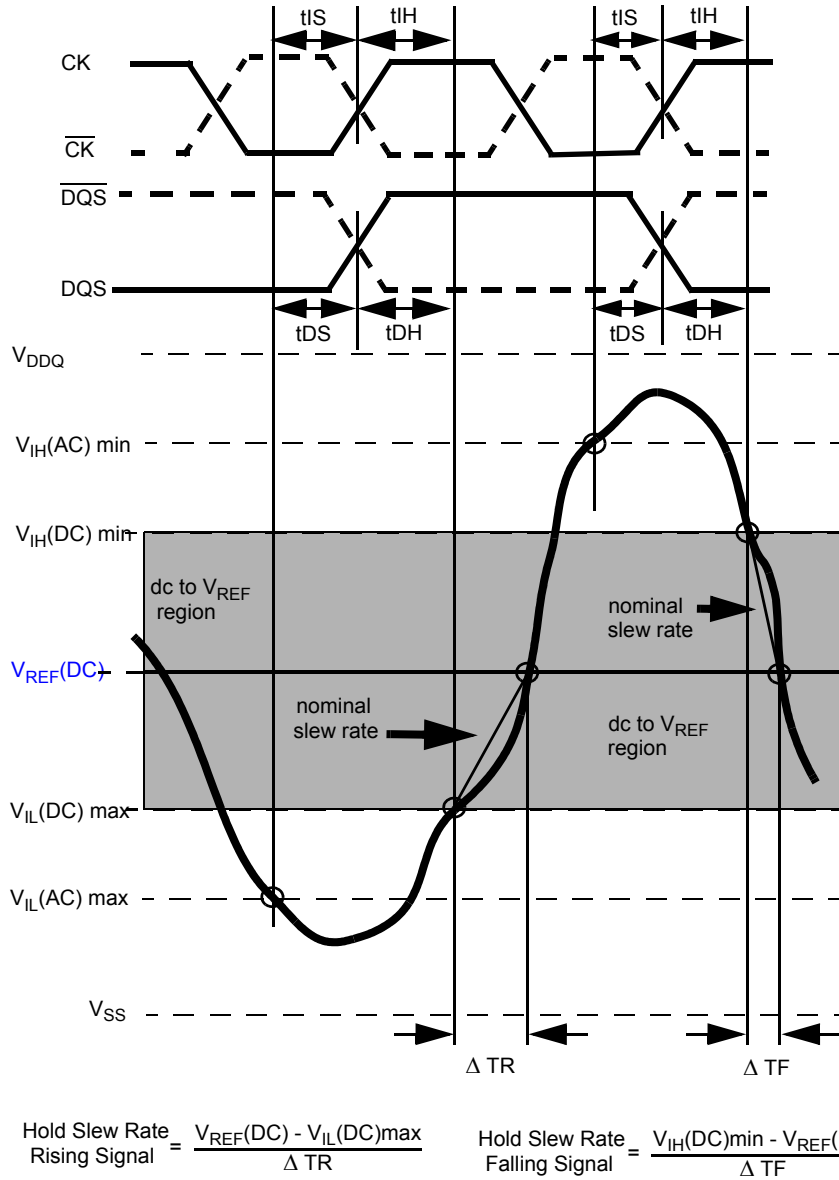
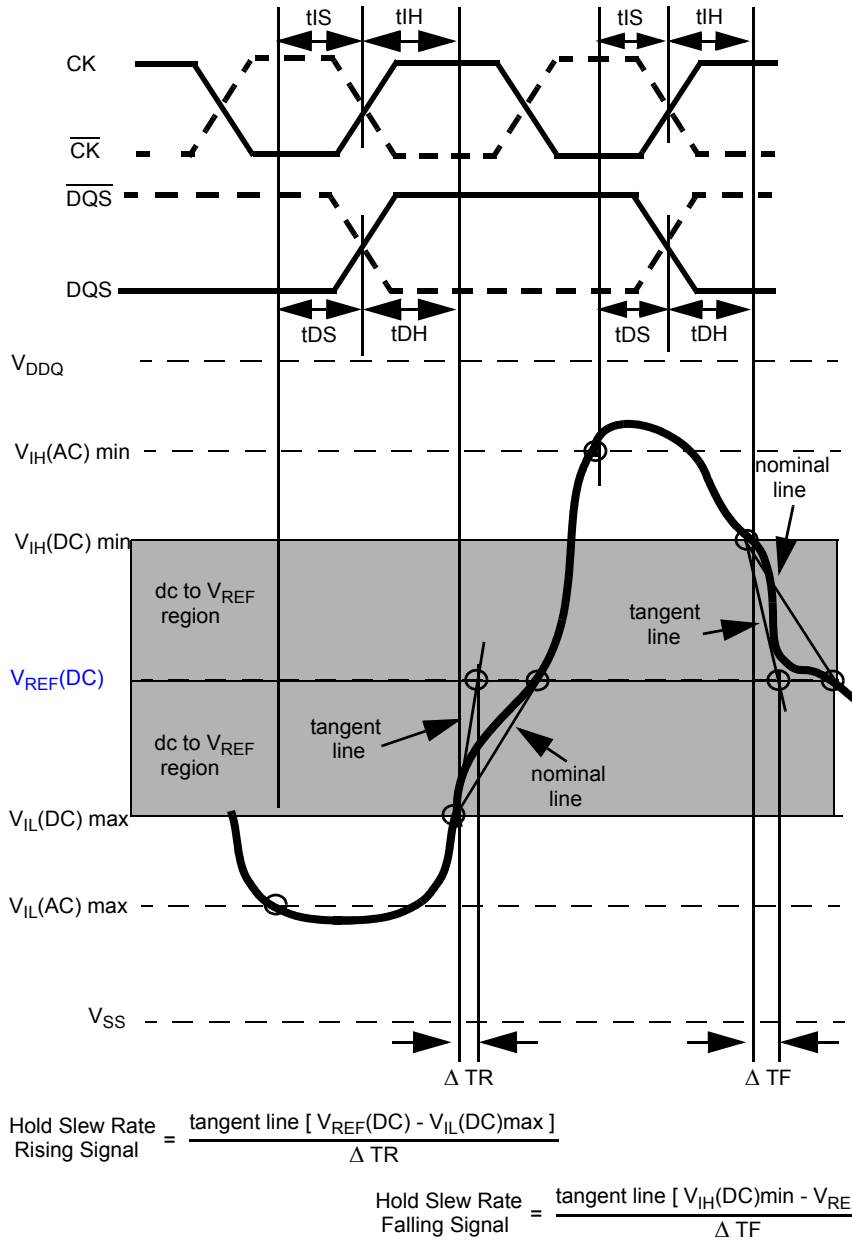

Figure 22. Illustration of nominal slew rate for hold time t_{DH} (for DQ with respect to strobe) and t_{IH} (for ADD/CMD with respect to clock).
Figure 24. Illustration of tangent line for hold time t_{DH} (for DQ with respect to strobe) and t_{IH} (for ADD/CMD with respect to clock)
Hold (tIH) nominal slew rate for a rising signal is defined as the slew rate between the last crossing of V_{IL}(DC) and the first crossing of V_{REF}(DC). Hold (tIH) nominal slew rate for a falling signal is defined as the slew rate between the last crossing of V_{IH}(DC)min and the first crossing of V_{REF}(DC). If the actual signal is always later than the nominal slew rate line between shaded 'dc to V_{REF}(DC) region', use nominal slew rate for derating value (see Figure 22). If the actual signal is earlier than the nominal slew rate line anywhere between shaded 'dc to V_{REF}(DC) region', the slew rate of a tangent line to the actual signal from the dc level to V_{REF}(DC) level is used for derating value (see Figure 24).